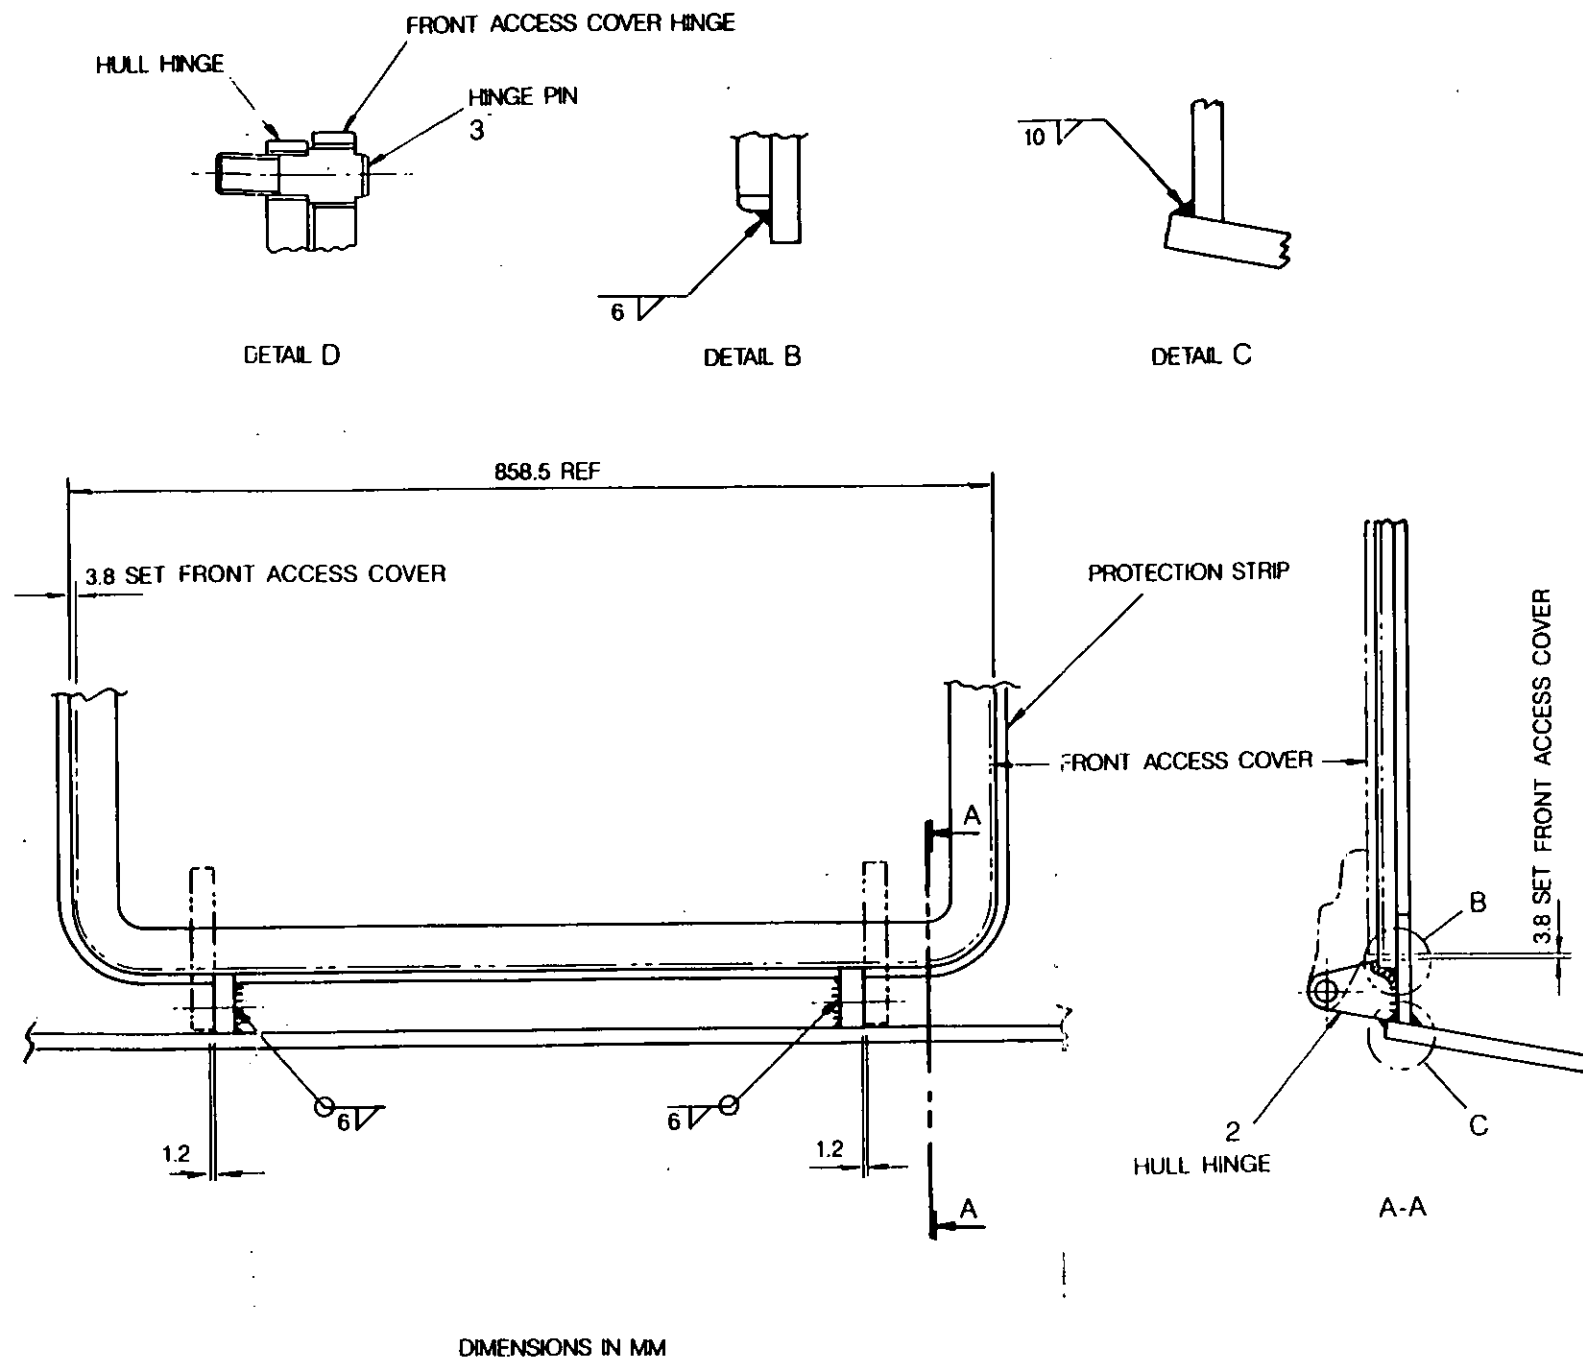

Fig 2 Replacement of the front access cover hinges (hull), set from the hatch hinges
9.2 To replace the front access cover hinges (hull), follow the repair scheme detailed at Fig 2.